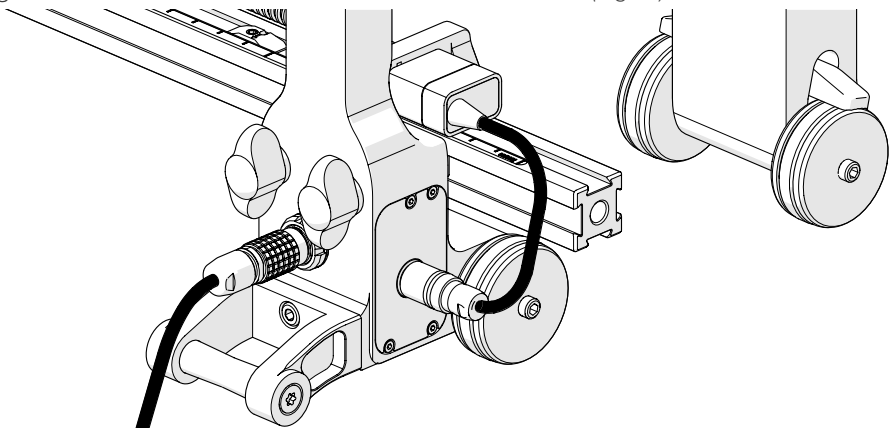

Fig. 71 - Connect index encoder to corrosion link
4. Plug the index encoder connector to the corrosion link (Fig. 71).